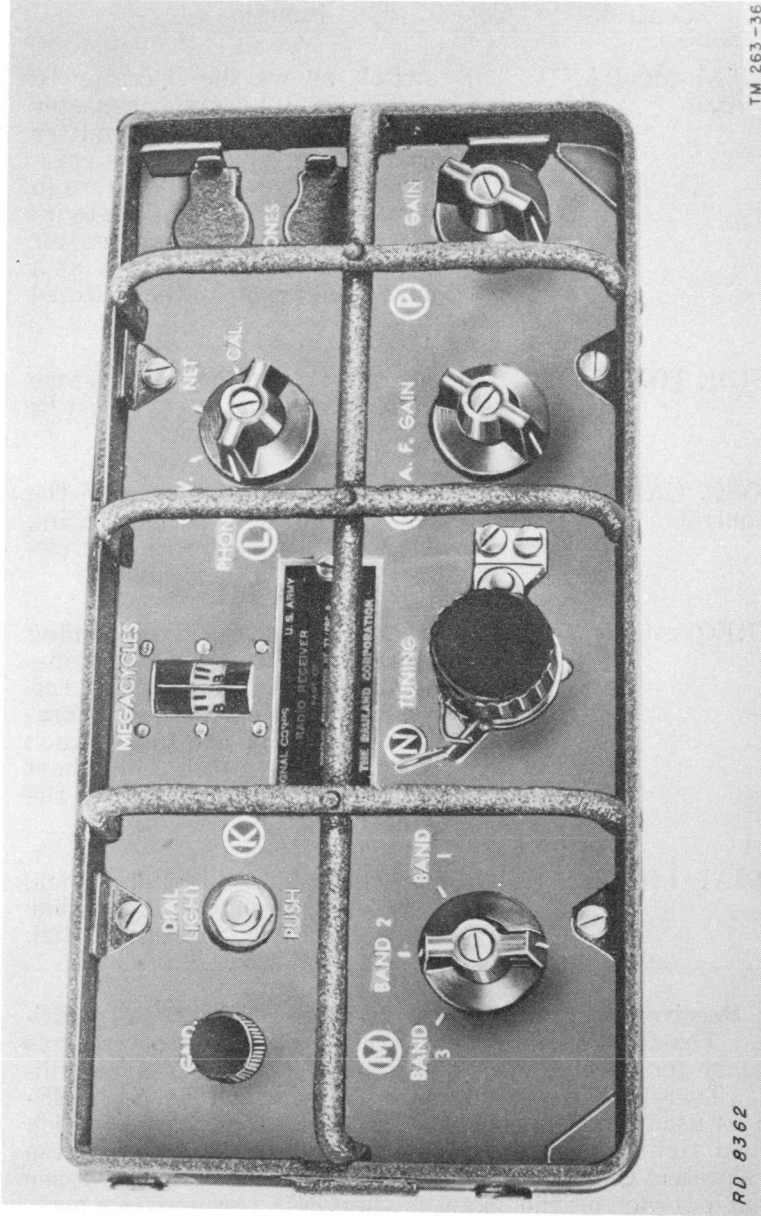

Figure 26.—Receiver Section, RT-77/GRC-9.
c. The controls for the receiver are illustrated in Figure 26 and their functions are described in the following chart.